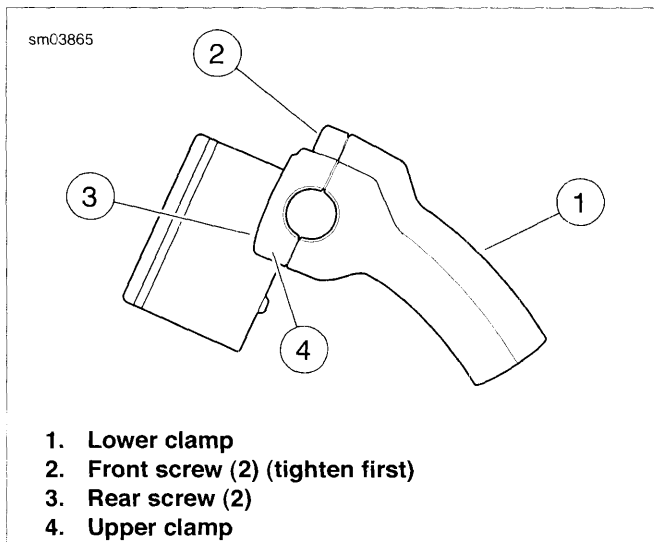

Figure 2-220. Handlebar Riser: XL 883C/XL 1200C
- Slide right handlebar control housing and throttle assembly (4, 6, 9) onto right end of handlebar (5). Position handlebar on lower handlebar clamp.
- Place upper handlebar clamp/speedometer housing (2) in position and thread four screws (3) in place.
- See Figure 2-220. Adjust handlebars to desired position. Tighten front screws (2) first, to 12-18 ft-lbs (16.3-24.4 Nm). Then tighten rear screws (3) to 12-18 ft-lbs (16.3-24.4 Nm).